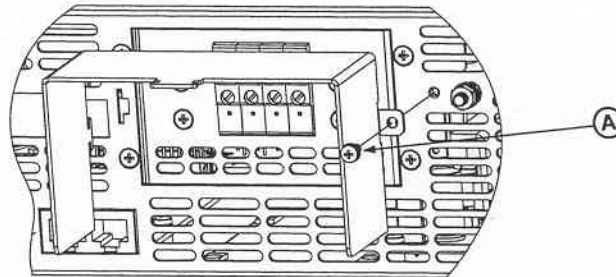

Fig. 3.9: Shield assembly
4. Loosen the two chassis screws marked "A" halfway as shown in Fig.3-9.
5. Assemble the protective shield to the chassis and tighten the two screws to fix the shield to the chassis (see Fig.3-9). Screws tightening torque: 4.8-5.3 Lb-inch. (0.5 - 0.6Nm)